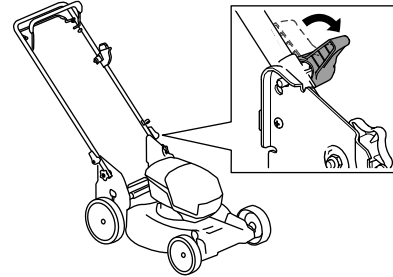

Figure 17
3. Disengage the handle locks (Figure 17).